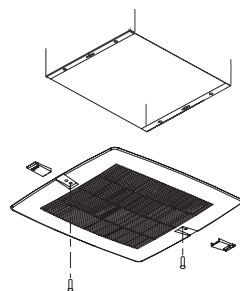

Figure 7
3. Slide attachment screw covers over the attachment screws, shown in Figure 7.